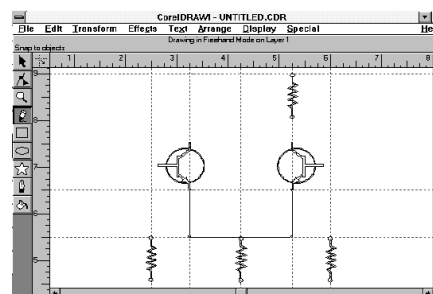

Fig. 18
**36.** Click the mouse once while holding down the CTRL key and move the crosshair up vertically to the intersection of the 6 1/2 inch horizontal line and the 3 1/4 vertical guideline. Click the mouse once. The drawing should now appear as it does in **Figure 18**.